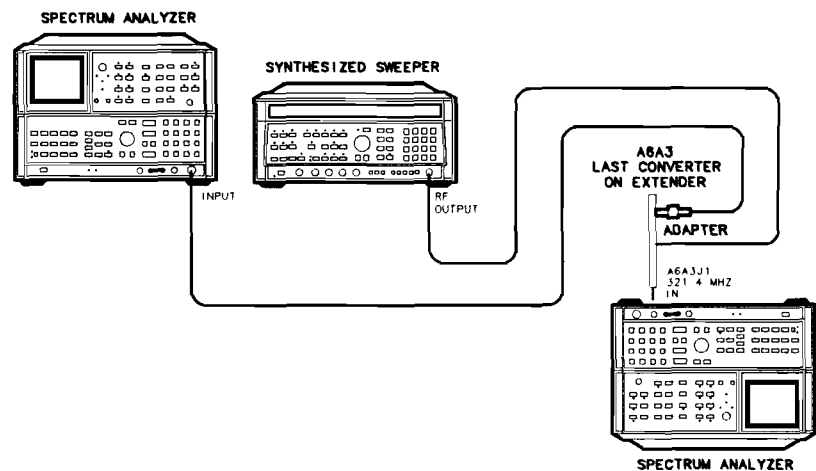

Figure 3-87. Last Converter Adjustments Setup
1. Set the spectrum analyzer LINE switch to STANDBY. Turn the spectrum analyzer over to position the RF Section on top, as shown in Figure 3-87, and remove the RF Section bottom cover.